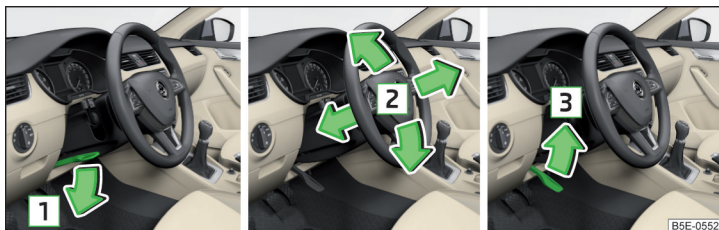

Fig. 3 Adjusting the steering wheel position
- Swing the safety lever under the steering wheel in the direction of arrow » Fig. 3.